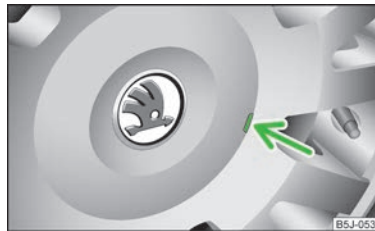

Fig. 126
- Carefully remove the wheel trim cap using the wire clamp from the vehicle tool kit » Fig. 126.